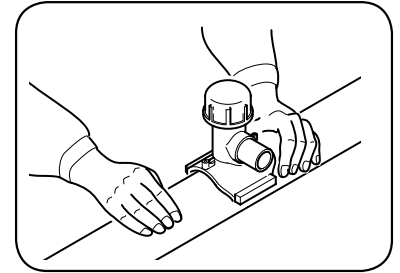

FIG.1
- 4 Apply the tapping tee on to the pipe watching out not to dirty the previously cleaned surfaces (see fig.1).